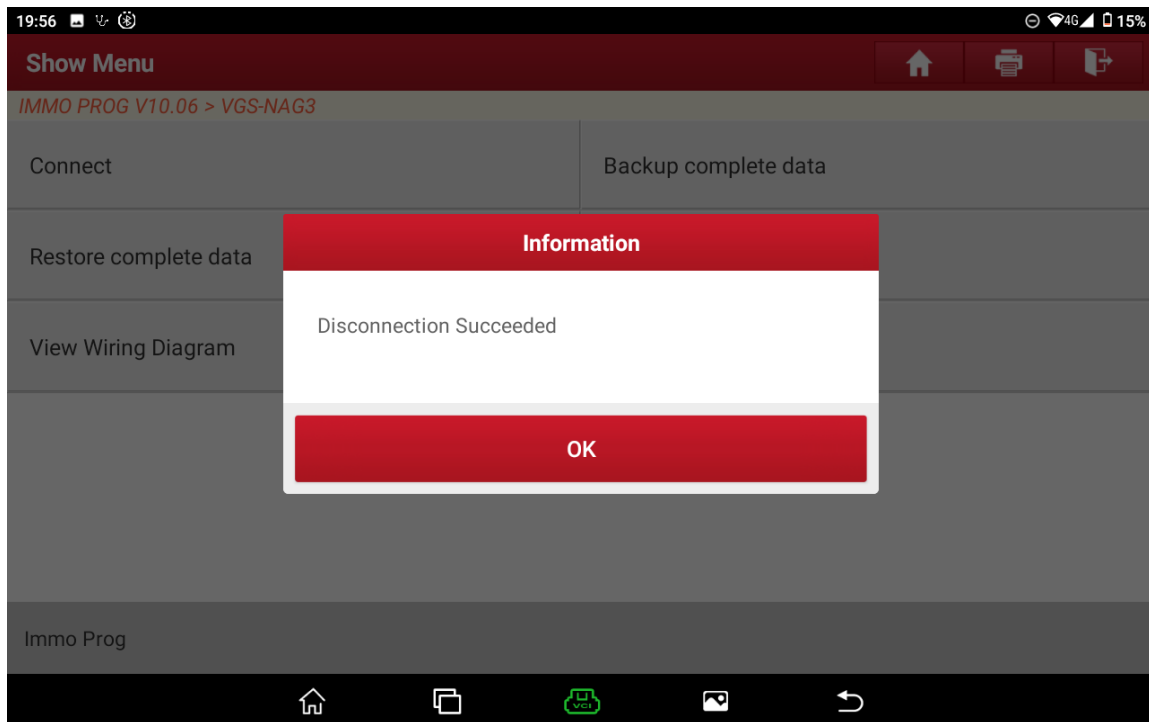

Figure 12
- Click **【Disconnect】** to disconnect the original gearbox and the Immobilizer programmer, as shown in Figure 12;